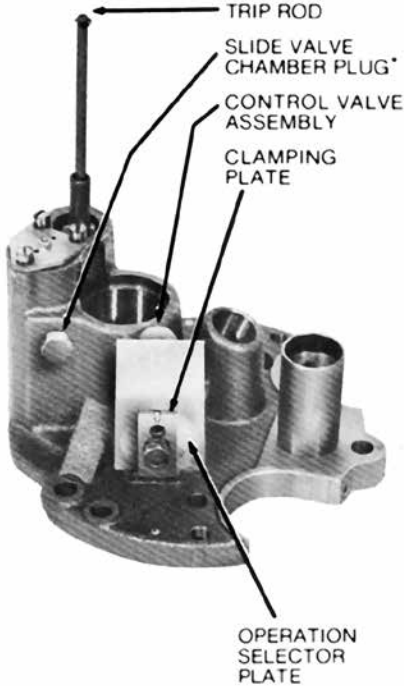

Figure 25. View of hydraulic mechanism
5. With a 1/2-in. wrench, remove the capscrew that secures the operation selector plate, orifice plate, and gasket. See Figure 25.